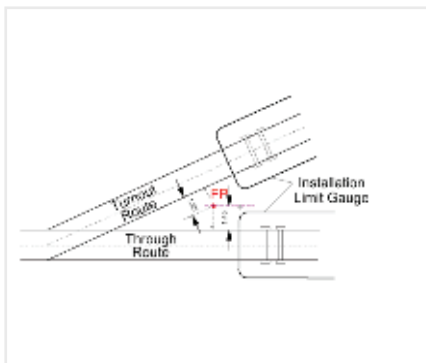

Figure 1: Fouling point as per Spanish gauging standard for through speeds >120 km/h.
Fouling points (FP) are points between the through track and the diverging tracks of a turnout or crossover arrangement beyond which trains would collide if both tracks were occupied at the same time. To establish the appropriate position of fouling points the relevant structure gauge (Limit Gauge for EN gauging) must be calculated. See Figure 1 as an example.